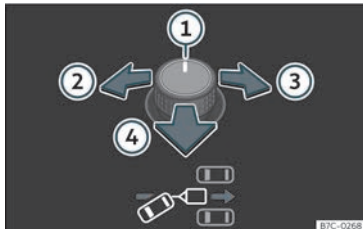
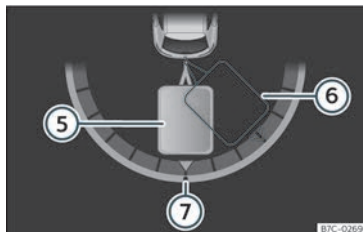

Fig. 188 Rotary exterior mirror controls.: adjust the trailer angle.
Fig. 189 Instrument panel display: engage reverse gear
Key of the **Fig. 188**, >>> **Fig. 189** :
• Tilt the rotary control until the desired direction is reached >>> **Fig. 188**. A representation of the tow vehicle and trailer set is shown on the instrument cluster screen for guidance purposes >>> **Fig. 189**.